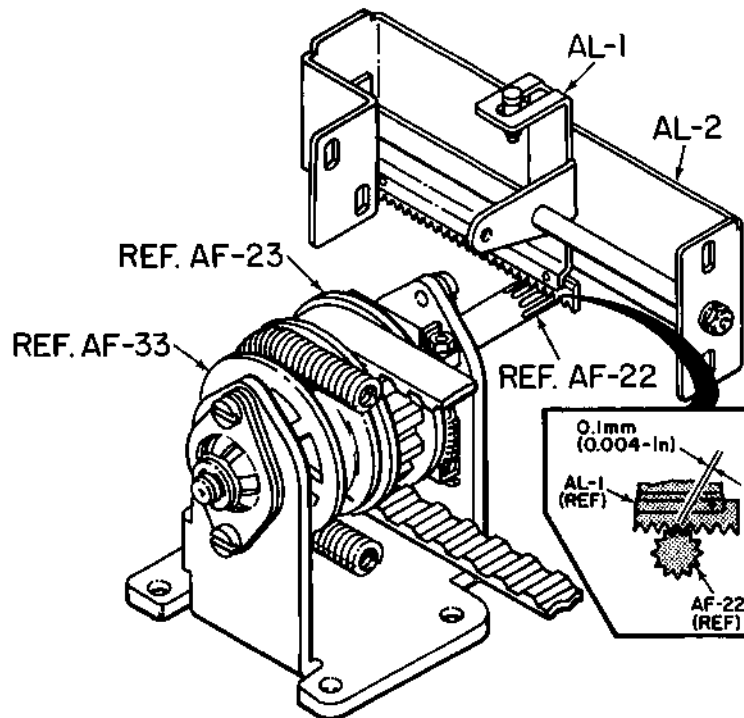

Figure 5-14. RACK AND PINION ADJUSTMENT, RIBBON MECHANISM
- (3) When performing next step (4), adjust guide plate so that rack is in a horizontal plane and meshes evenly with pinion gear when head is run out to extreme right by hand.
- (4) Maintain allowable standard backlash of 0.1 mm (0.004-in.) between rack and pinion teeth. (Move rack guide plate up or down into spline of shaft (AF-22) to establish backlash adjustment, (See Fig. 5-14).
- (5) When those steps in paras. 2.b.1. through 2.b.3 have been performed correctly, tighten four rack guide screws (AL-6).